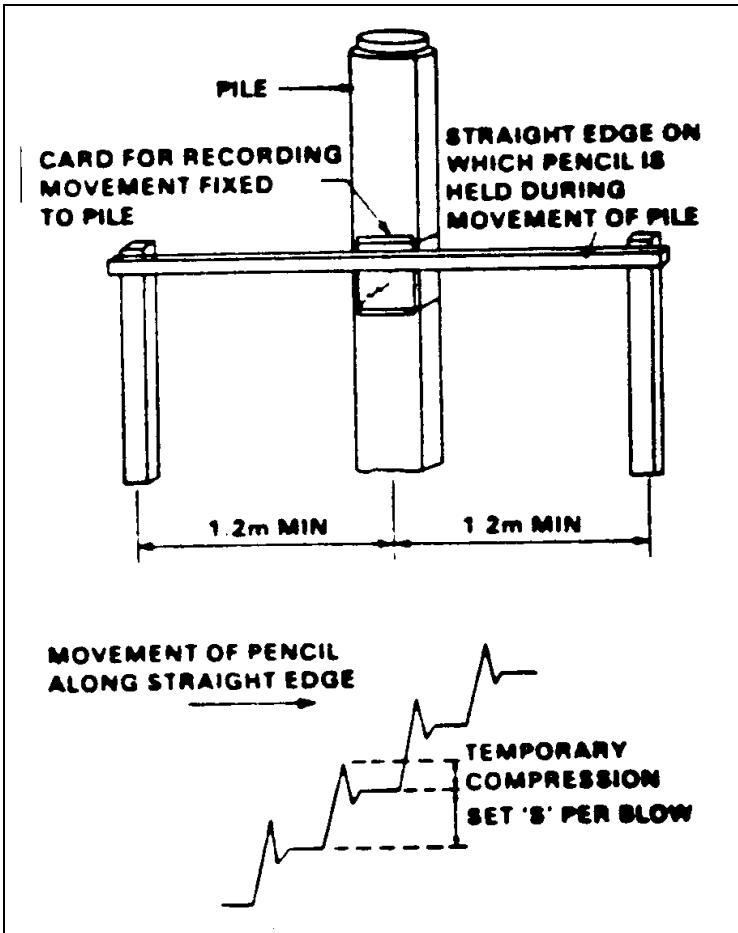

Fig 14-3-4 Measuring the "Set" of a Pile
11. **Driving.** Once driving has started, the pile shall be driven to its final set. The set is the distance the pile penetrates after each blow. If the pile ceases to penetrate, then driving shall stop so as not to damage the pile. This is caused when the foot of the pile reaches a hard stratum, or when the sides of the pile and the ground cause too much friction, or a combination of both. The final set, which is normally taken as the average for the last five (or sometimes ten) blows of the hammers, shall never be less than 0.5 cm. A method of measuring set is shown in Fig 14-3-4.